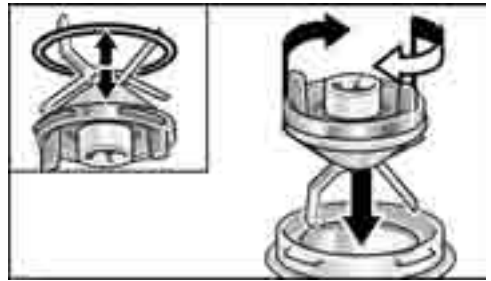

Figure 11
2. To assemble or reassemble blade/base assembly into the blender, insert the blade/base assembly into the blender jar and press down on the blade/base assembly. Turn clockwise to the stop, see figure 11. The blade/base assembly is then back in place.